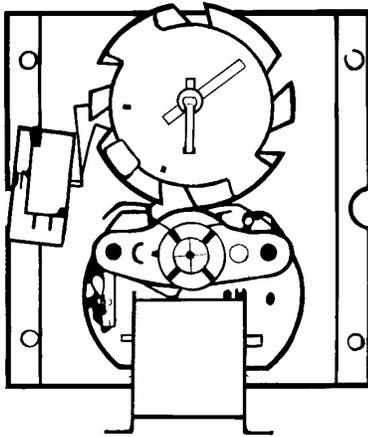

FIGURE 1
1. See Vend Motor and cluster switches in stand-by position Figures 1 and 2.